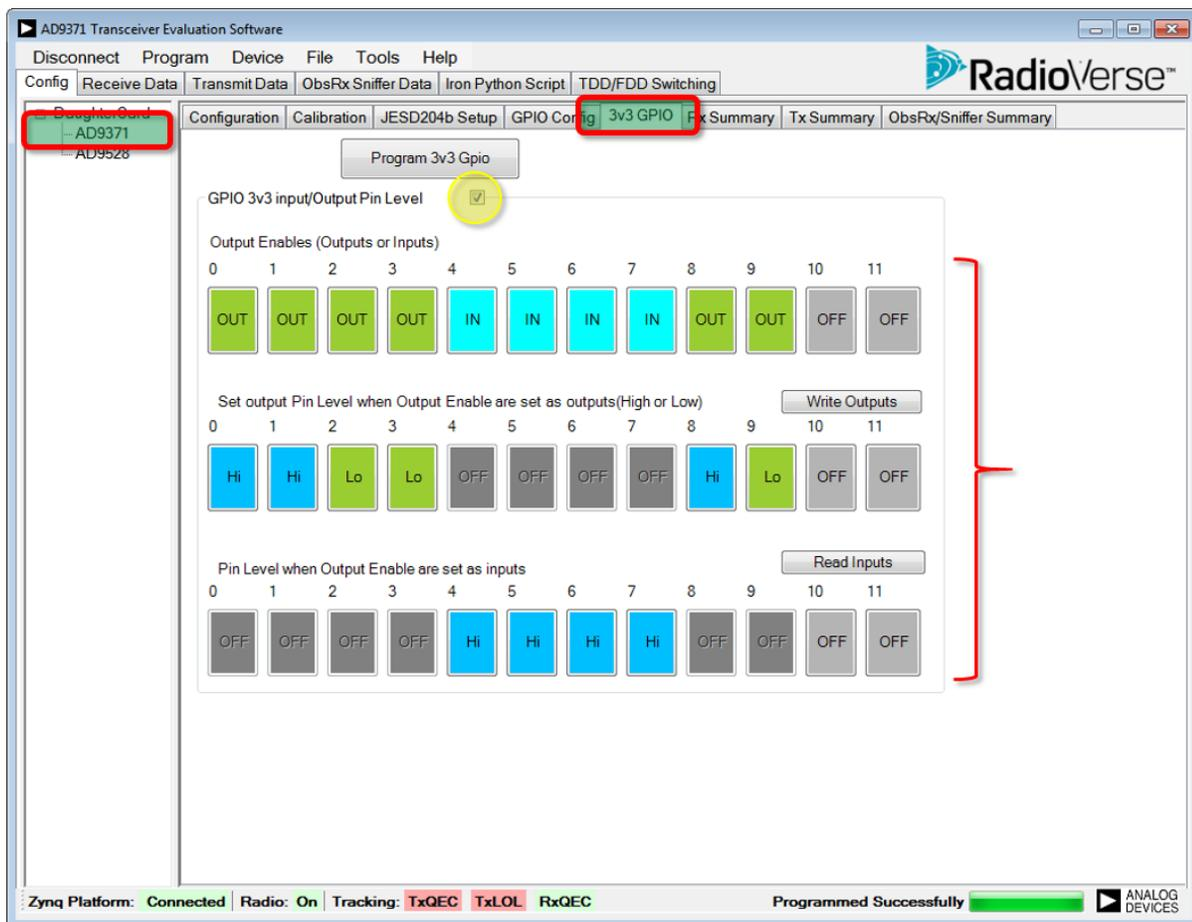

Figure 200. 3v3 GPIO Tab Setup
The fifth user configurable tab within the **Config** tab is the **3v3 GPIO** tab (see Figure 200). This tab sets the characteristics of the 3.3 V general-purpose input/output interface. It allows users to program the behavior of the GPIO interface (powered from a 3.3 V power domain). Within the **3V3 GPIO** tab, the user can select and enable operation of the 3.3 V GPIO pins in manual input/output mode. Check the **GPIO 3v3 Input/Output Pin Level** box to enable manual mode.
- Click the GPIO numbered boxes in the **Output Enables (Outputs or Inputs)** section (see Figure 200) to select which 3.3 V GPIO pin is used in manual mode. Click once on a numbered box to set the 3.3 V GPIO pin to operate as an output, click twice to set it to operate as an input, and click a third time to disable manual mode for that 3.3 V GPIO pin. For example, in Figure 200, click once in the **0** box to set the 3.3 V GPIO 0 pin as an output.
Figure 200 shows a configuration example with 3.3 V GPIO Pin 0 to Pin 3, Pin 8, and Pin 9 set to operate as outputs, and 3.3 V GPIO Pin 4 to Pin 7 set to operate as inputs. The 3.3 V GPIO Pin 0, Pin 1, and Pin 8 are set to logic high, and the 3.3 V GPIO Pin 2, Pin 3, and Pin 9 are set to logic low. The 3.3 V GPIO Pin 4 to Pin 7 read back logic high.